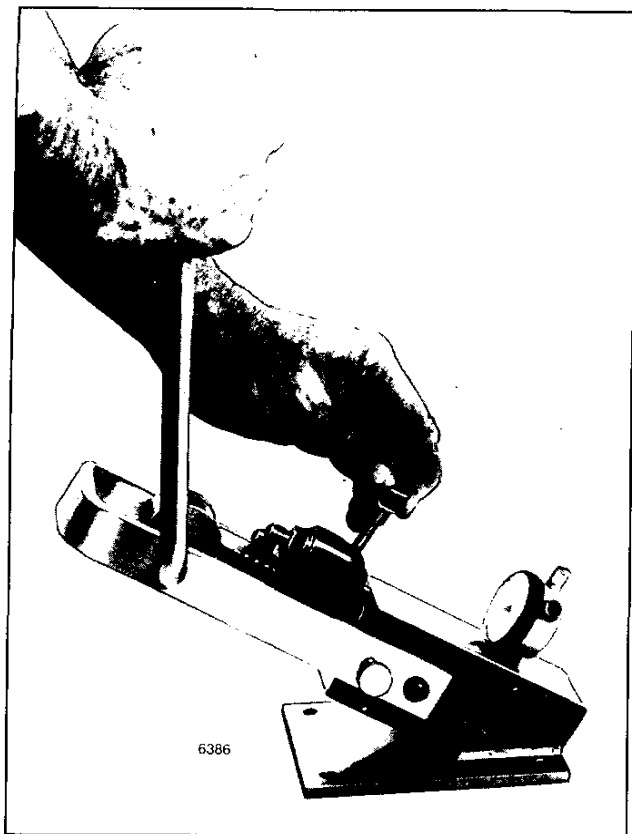

Fig. 35 - Checking Rack for Freeness in Tester J 29584
Place the injector in Tester J 29584 (Fig. 35) and check rack freeness.
1. Place the injector in Tester J 29584 (Fig. 35) and adjust the dial indicator to zero.